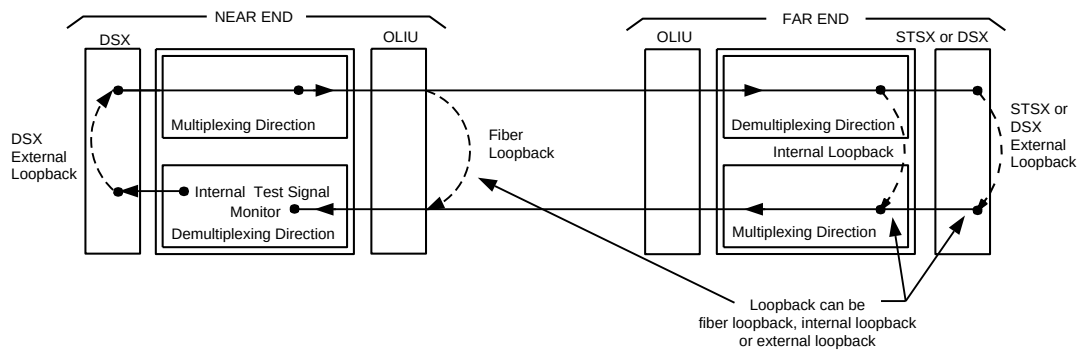

Figure 2. Transmission Test of DS1 Signal in DEMUX Direction
9. See Figure 2. At the near-end DSX-1 cross-connection associated with the DDM-2000 being tested, connect a patch cord from the **OUT** jack to the **IN** jack for the DS1 channel to be tested.